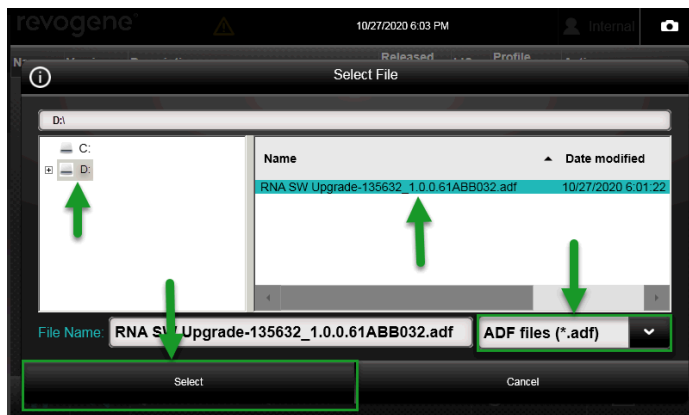

Figure 26. ADF Selection Window.
9. Tap the **<Select>** button. (Figure 26)